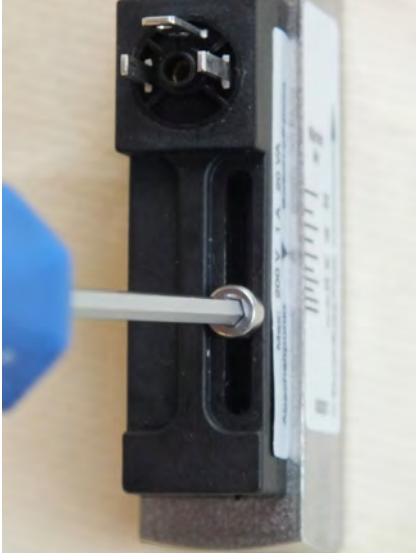

Fig. 32: Loosen the set screw
1. ➤ Loosen the set screw of the switch contact (Fig. 32) using a Hex screwdriver.
3. ➤ Re-tighten the set screw of the switch contact (Fig. 32) using a Hex screwdriver. When doing so, observe the correct tightening torque.